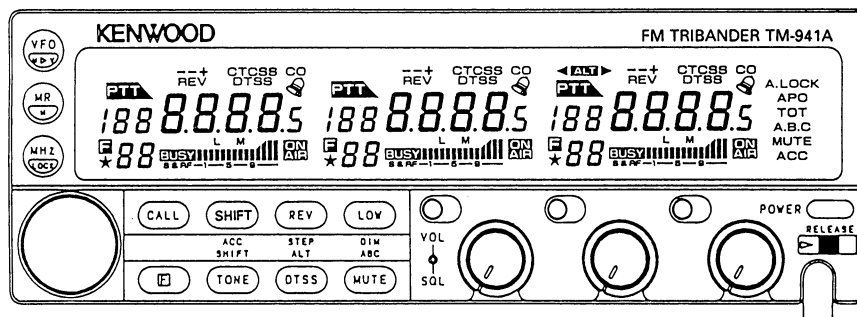

Fig. 33
- Check that the display and LCD display are as shown in Figure 33 after controls are set as in shown in Table 10.